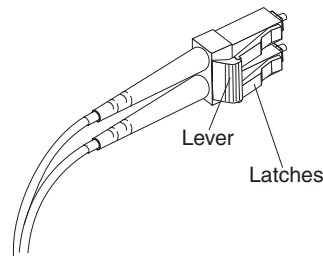

Figure 39. LC-LS fibre channel cable lever and latches
1. On the end of the cable that connects into the LC connector end of the LC-SC cable adapter, press down and hold the lever to release the latches. Figure 39 shows the location of the lever and latches.